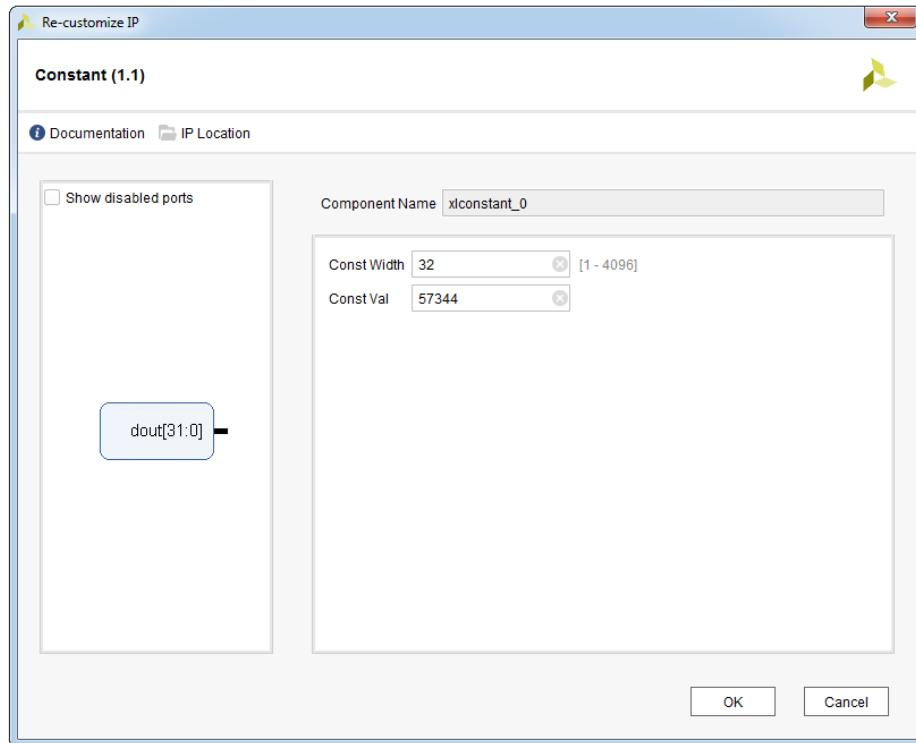

Figure 12.52: Constant block re-customization dialog box
18. Double-click on the first **Constant** (**xlconstant_0**) block and set the **Const Width** value to **32** and **Const Value** value to **57344**, see Figure 12.52.